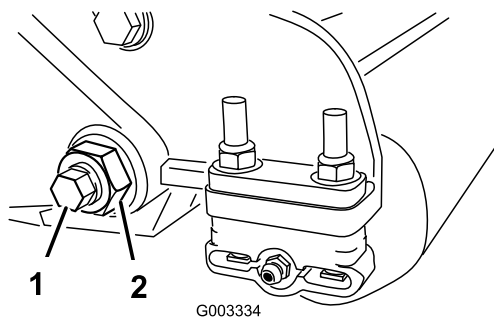
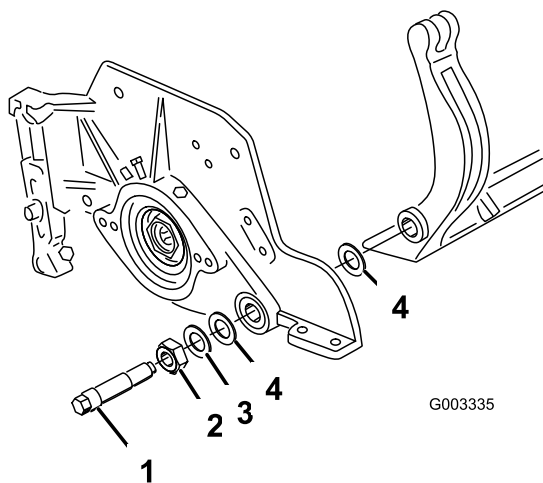

Figure 24
Figure 25
- On each side of the machine, loosen the lock nut securing the bedbar bolt (Figure 24).
- Remove each bedbar bolt allowing bedbar to be pulled downward and removed from machine bolt (Figure 24). Account for 2 nylon and 1 stamped steel washers on each end of bedbar (Figure 25).
- Secure bedbar to each side plate with bedbar bolts (nuts on bolts) and 6 washers. A nylon washer is to be positioned on each side of side plate boss. Place a steel washer outside each of the nylon washers (Figure 25). Torque bedbar bolts to 27-33 ft.-lb. Tighten locknuts until the outside steel washer stops rotating and end play is removed but do not overtighten or deflect side plates. Washers on inside may have a gap.